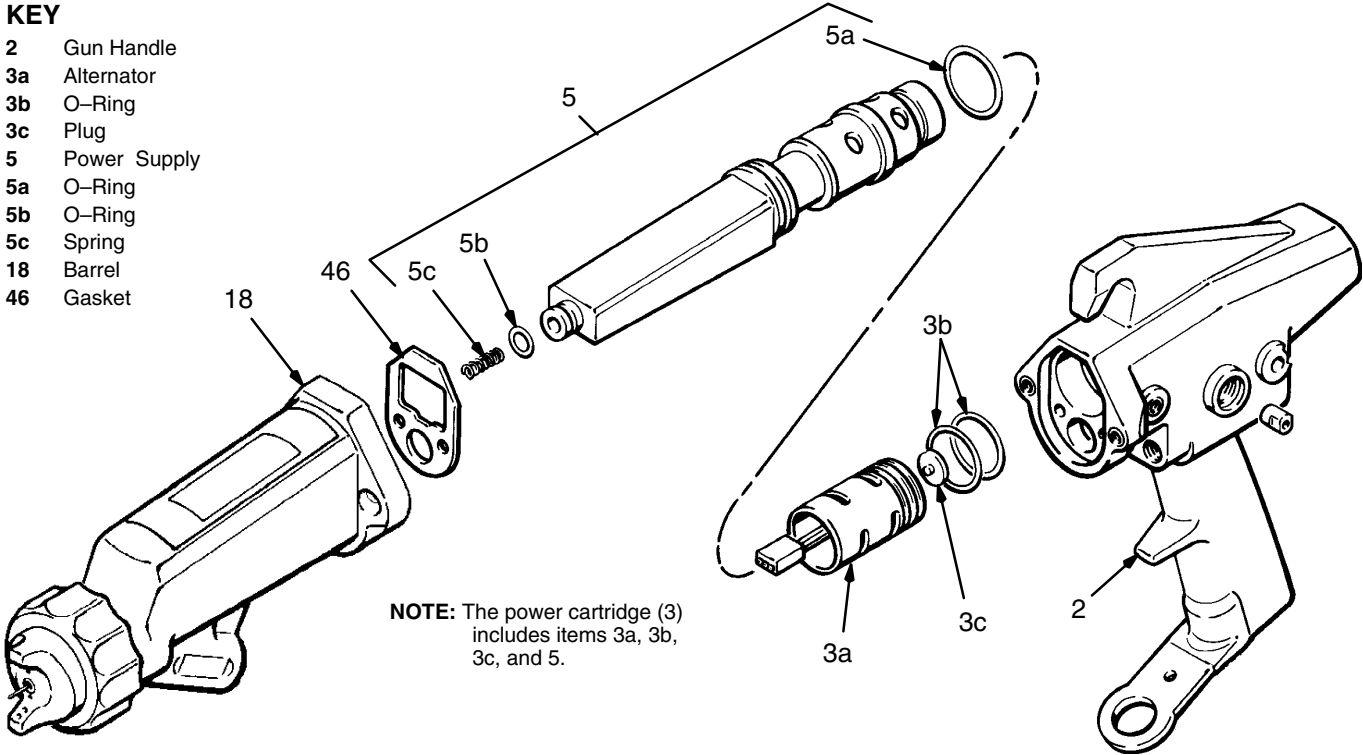

Fig 17
2. Remove the gasket (46) from the gun. See Fig 17.